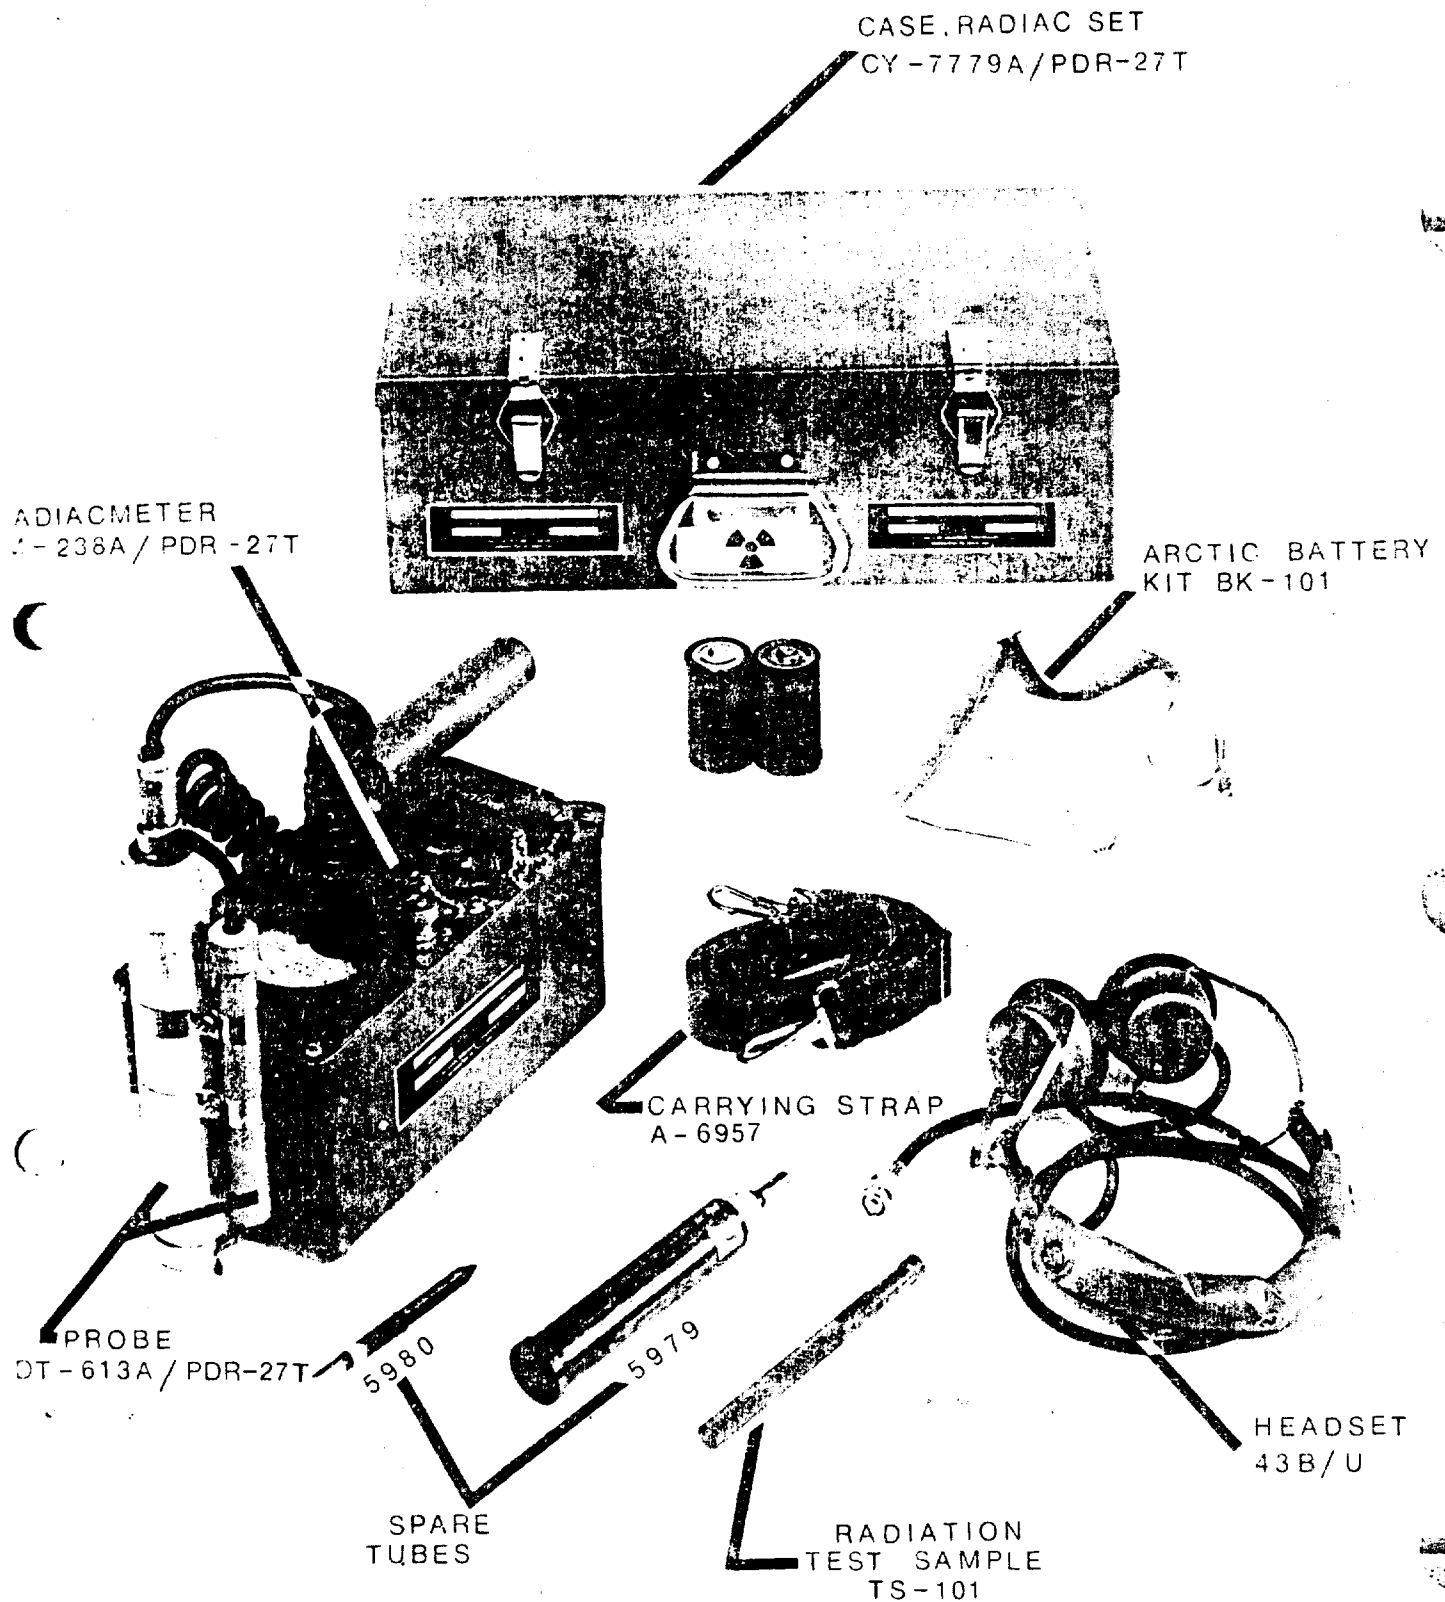

FIGURE 1-1. RADIAC SET AN/PDR-27T, RELATIONSHIP OF UNITS
1-2. GENERAL DESCRIPTION. Radiac Set AN/PDR-27T is a portable, battery operated radiation detector and indicator (Figure 1-1) capable of detecting and measuring up to 500 milliroentgens of gamma radiation and can detect the presence of beta radiation. Radiacmeter IM-238/PDR-27T is the main unit of the radiac set. The radiacmeter is equipped with carrying handle and detachable shoulder harness. Radiac Detector DT-613/PDR-27T, attached to the radiacmeter by a detachable coiled cable, is a two-compartment probe which is stowed in the mounting clip on the radiacmeter case. The radiacmeter housing encloses an electronic chassis, an indicating meter and dry-cell batteries. Case CY-7779A/PDR-27T is a lightweight carrying case which houses the Radiacmeter IM-PDR-27T, Headset H-43 B/U, Harness P/N B1031, spare tubes, Check Source TS101 and Arctic Battery Kit BK101.
a. Case CY-7779A/PDR-27T. The carrying case houses all the other units of the radiac set (Figure 1-1). It is splashproof and is equipped with a carrying handle. The case is rectangular shaped and can readily be decontaminated. Compartments to carry a spare set of batteries as well as all the other components are provided in the case.
c. Radiac Detector DT-613A/PDR-27T. The radiac detector is a probe consisting of a type JAN-5979 Geiger Mueller tube and a type JAN-5980 Geiger Mueller tube, each enclosed in its own cylindrical metal housing (Figure 1-1). The two housings are clamped together into one unit. A movable metal shield normally covers the mica window of the larger tube. When the shield is over the window, beta radiation is excluded from the tube. The shield can be swung aside when beta-plus gamma radiation readings are desired.
h. Spare Parts. The field spares, consisting of one each of the GM tubes are carried in the spare parts compartment (Figure 1-1) of the carrying case.